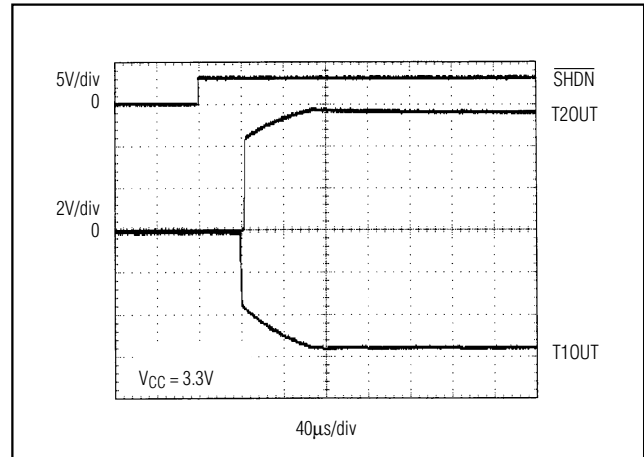

Figure 7. MAX3111E Transmitter Outputs Exiting Shutdown or Powering Up
Supply current falls to ICCSHDN(H) when in hardware shutdown mode ($\overline{\text{SHDN}} = \text{low}$). When shut down, the device's charge pumps are turned off, V_+ is pulled down to V_{CC} , V_- is pulled to ground, and the transmitter outputs are disabled (high impedance). The time required to exit shutdown is typically $100\mu\text{s}$, as shown in Figure 7. Connect $\overline{\text{SHDN}}$ to V_{CC} if the shutdown mode is not used. The UART software shutdown does not affect the RS-232 transceiver.
Figure 7 shows two RS-232 transmitter outputs exiting shutdown mode. As they become active, the two transmitter outputs are shown going to opposite RS-232 levels (one transmitter input is high; the other is low). Each transmitter is loaded with 3k Ω in parallel with 2500pF. The transmitter outputs display no ringing or undesirable transients as they come out of shutdown. Note that the transmitters are enabled only when the magnitude of V₋ exceeds approximately 3V.